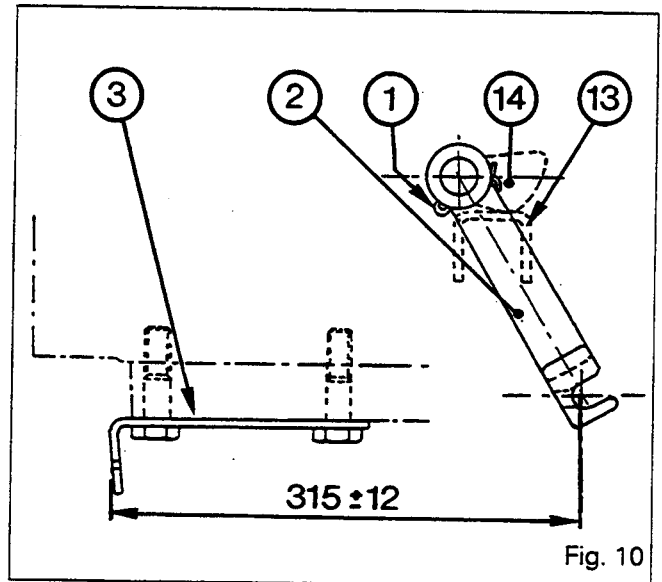

Fig. 10
55. Position the lever (2) (Fig. 10) of the cam (14) in contact with the lever (13) so as to obtain a distance of 315 mm $\pm$ 12 between the cable fastening axis and the support (3). Fit the cotter pin (1) (Fig. 10).